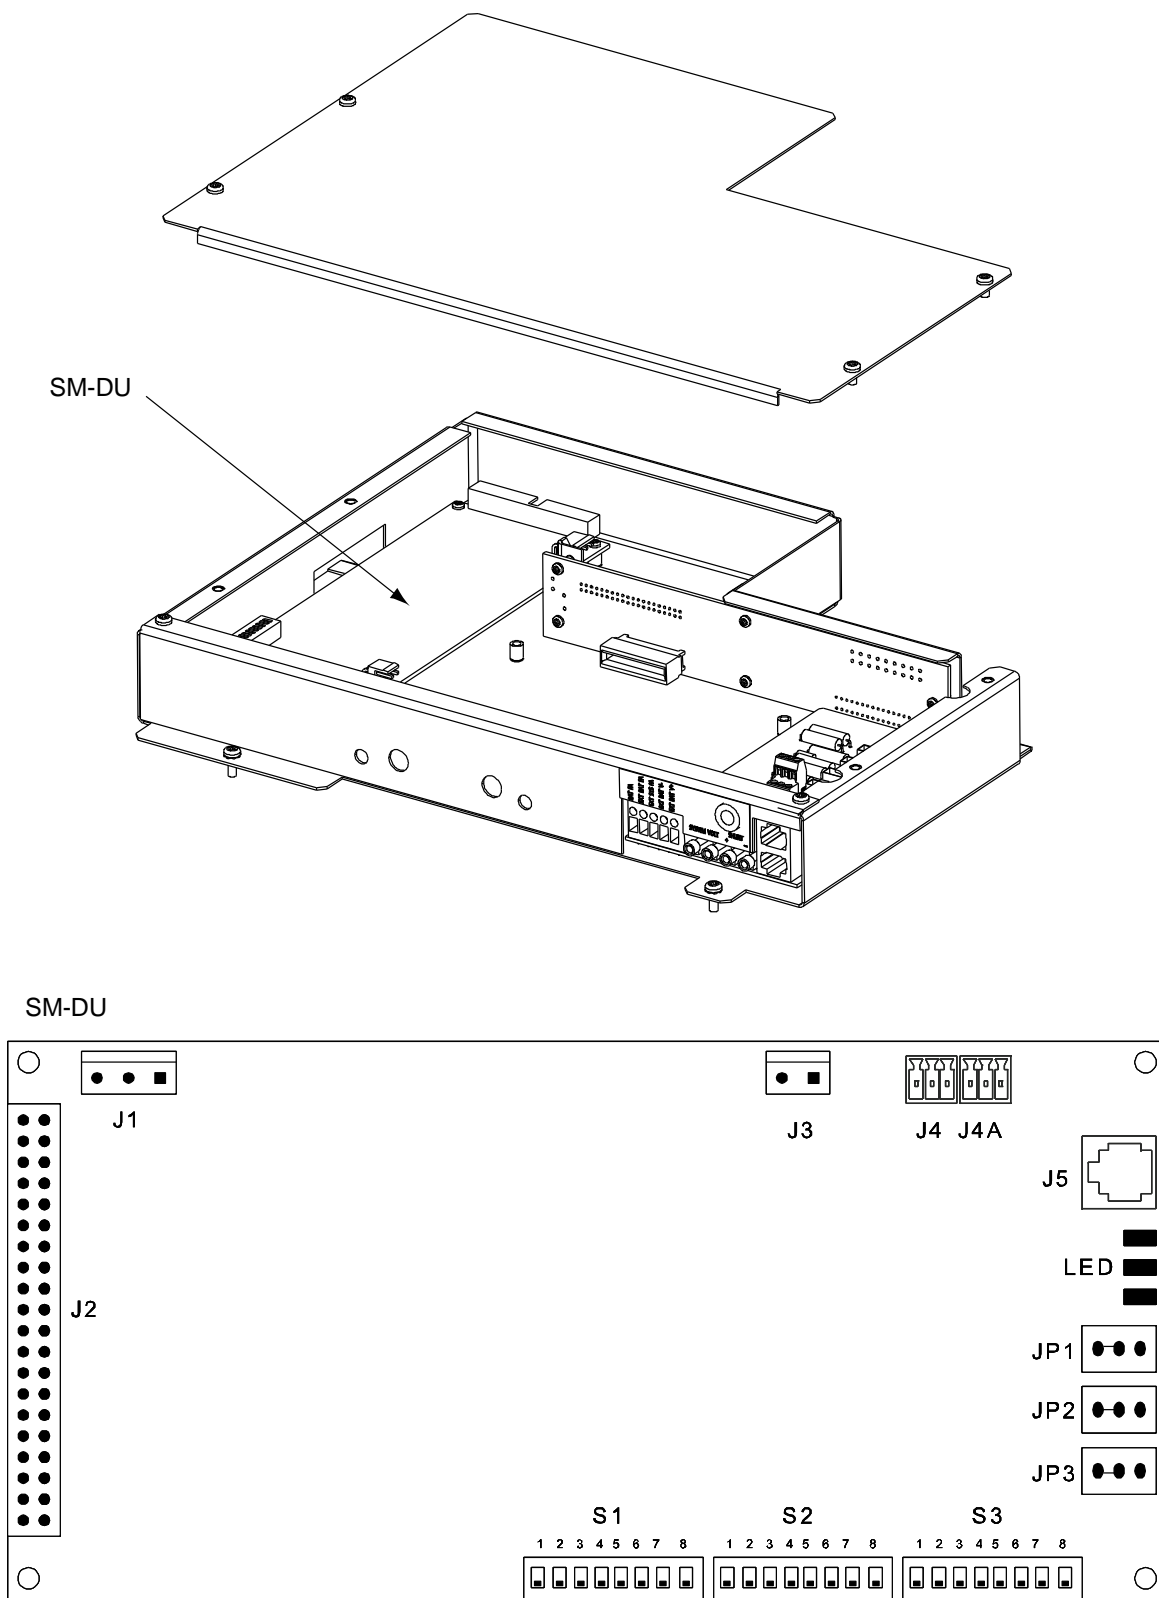

Figure 4-10
- 4) Remove the top and front panels to access the circuit cards at the bottom of the distribution cabinet. See Figure 4-10.